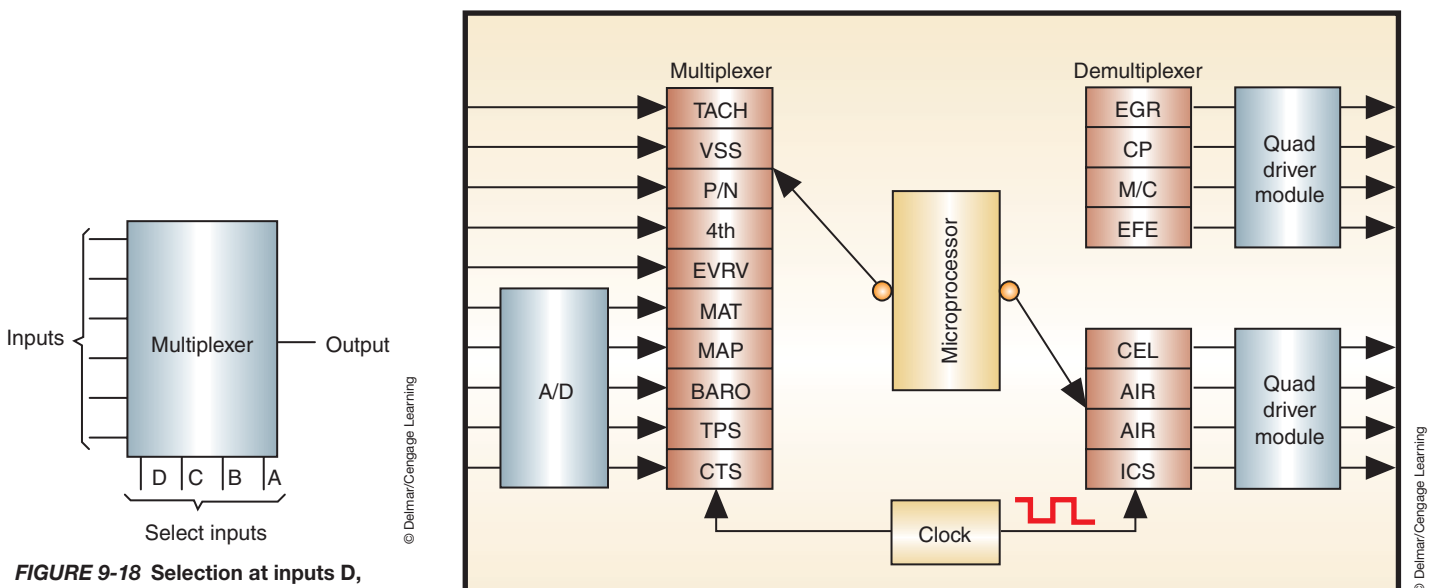

FIGURE 9-19 Block diagram representation of the MUX and DEMUX circuit.
3. **Demultiplexer (DEMUX):** Operates similar to the MUX except that it controls the order of the outputs (Figure 9-19).